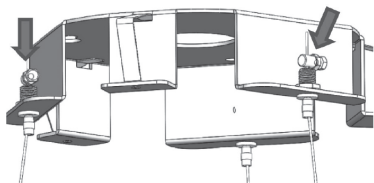

FIG.9
- › Add the clips as a further safety precaution to lock the cables in position (Fig.9).